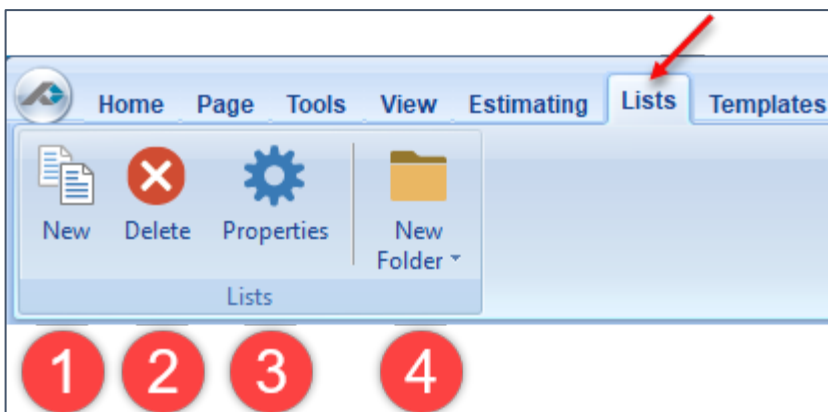

Figure 50-A
The **Lists** tab (Fig. 50-A) provides tools that allow you to create and edit drop-down menus for lists of items you need to enter frequently (for example, stud sizes). You can create new lists, delete lists, change the properties of lists, and create new folders or subfolders for the lists. The types of lists that can be created are **Simple Lists**, **Lists from MS Access File Tables**, and **ADO Query Lists**. The creation of a simple list, deleting, viewing properties, and creation of folders and subfolders is covered below. PlanSwift recommends a training class to use these more advanced features.
1. The **New** button opens the **New List – Select List Type** window from which you select the list type (Fig. 50-B). To select a list type: